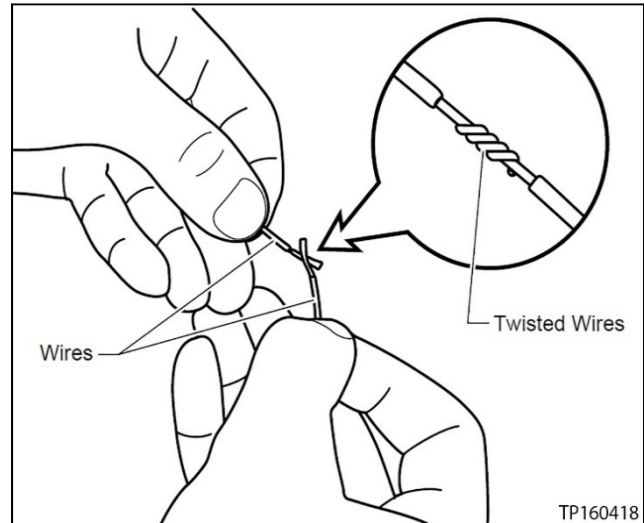

Figure 20
- See Figure 20 for example of twisting wires.